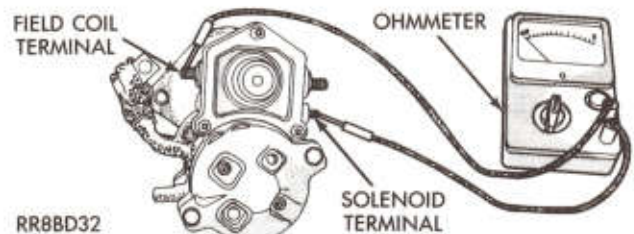

Fig. 7—Continuity Test Between Solenoid Terminal and Field Coil Terminal (Typical)
(3) Check for continuity between solenoid terminal and field coil terminal with a continuity tester. There should be continuity (Fig. 7).